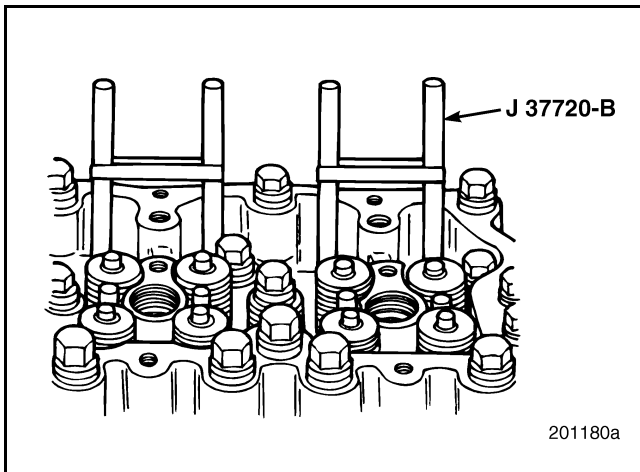

Figure 315 — Valve Lifter (Tappet) Holder Tool J 37720-C
2. Secure the lifter in the UP position with grommets provided with the tappet holders. The holding tool shafts of two adjacent valve lifters can be prevented from dropping by wrapping a rubber band around the two shafts. This draws the shafts together and holds them in position. Refer to Figure 315.
4. Secure the lifter in the UP position with grommets provided with the tappet holders. The holding tool shafts of two adjacent valve lifters can be prevented from dropping by wrapping a rubber band around the two shafts. This draws the shafts together and holds them in position. Refer to Figure 315.